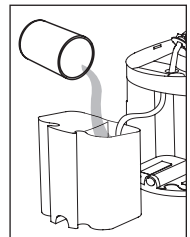

Fig. 6
- 6) If desired, remove the aromatherapy/drain tank from the unit. Fill the aromatherapy tank with up to 60 mL of saline or aromatherapy water, Fig. 6.